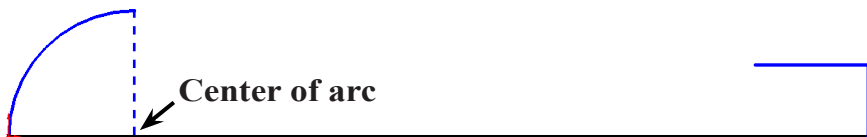

Fig. 3
- Step 2. Click **Centerpoint Arc**  (S) in the **Arc flyout**  on the Sketch toolbar.
- Step 3. Click the bottom horizontal line close to the Origin to place the center of the arc. Click the Origin to start the first arc endpoint, then move cursor around clockwise to swing arc 90 degrees. Click to place the second endpoint, **Fig. 3**. Use the inferencing line, the dotted line that appears when you sketch the arc 90 degrees.